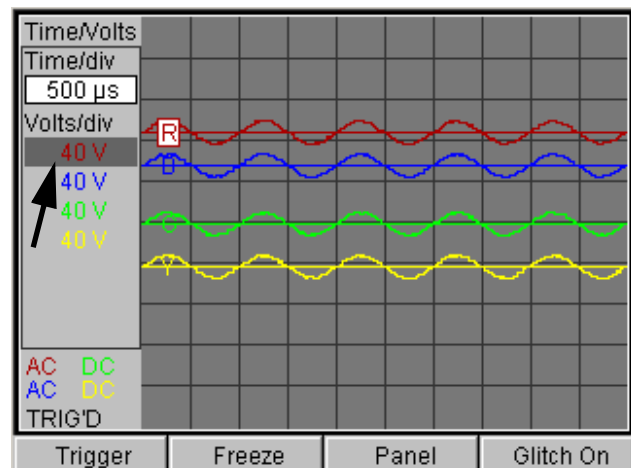

Figure 7.25: Lab Scope Screen, DMM Off - after adjusting Time/div Field (the selected color is red and the selected field is Volts/div)
- a Press the **Down Direction** key to move the Volt/div field for the currently selected color. You know the field is selected when the field is shaded, as shown in Figure 7.25.